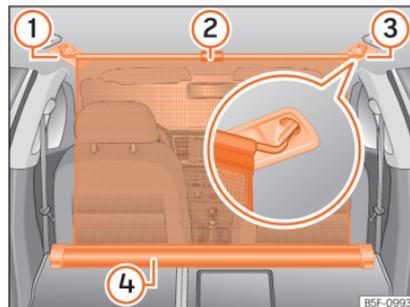

Fig. 182 In the boot: net partition hooked into the rear seat backrests. »
- Pull up handle »» Fig. 182 ② to remove the net from the casing »» Fig. 182 ④.
- Hook in the net partition on the right side »» Fig. 182 ③ (magnified image).
- Hook in the net partition in the left side housing »» Fig. 182 ① pulling the rod.
The net partition is properly assembled when the T-shaped ends are firmly secured in the corresponding housings »» Fig. 182 ③ and ①.
- Roll up the net into the casing »» Fig. 182 ④ lowering it with your hand.